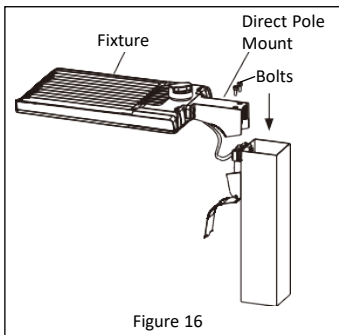

Figure 16
2. Attach the fixture to the mount base by installing 2 bolts and make wiring connections according to the **Wiring Diagram** below. **See Figure 16 .**